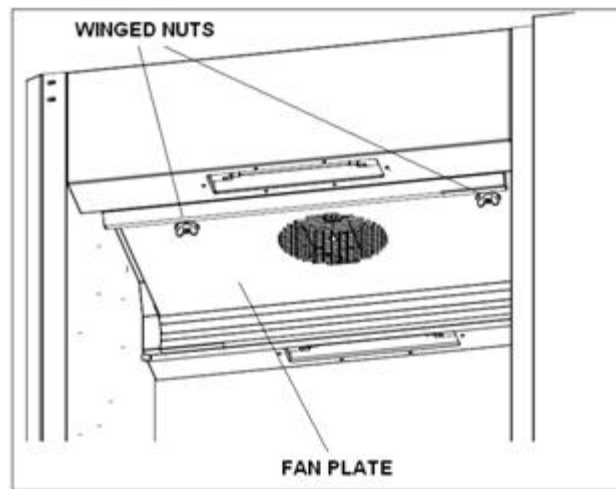

Figure 19
- Remove the fan plate by loosening two winged nuts (see Figure 19). This plate hinges at two points at the sides. After pivoting, the plate can be removed from the unit.